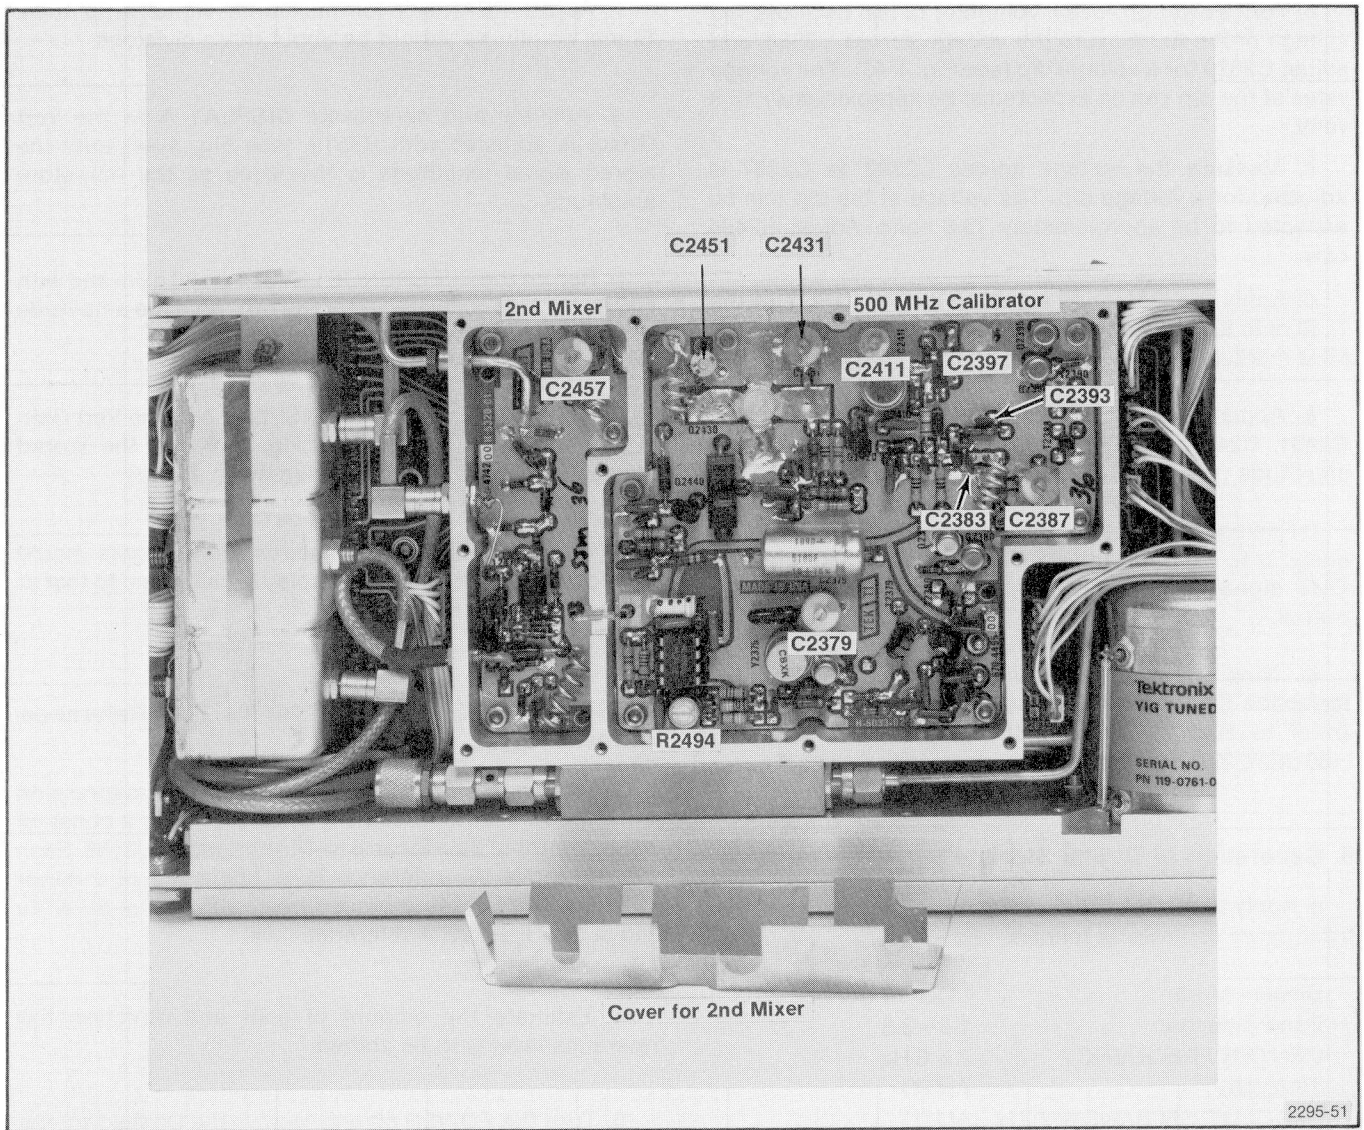

Fig. 4-43. 500 MHz Calibrator and 2nd Mixer Adjustment and T.P. Locations.
- e. Set the 7L18 band selector to 1.5—3.5 GHz and adjust REFERENCE LEVEL for an on-screen indication. It may be necessary to adjust Band 1 Gain R2574 on the Vertical Microcomputer Interface board (see Fig. 4-43), to midrange if a signal is not on-screen.
a. Turn the POWER off, remove the cover plate on the 2nd Mixer and 500 MHz Local Oscillator assembly and the copper shield over the 2nd Mixer section (see Fig. 4-43). Set the front panel controls as follows:
b. Turn Power on. Use a voltmeter or test oscilloscope voltage probe to measure the voltage across C2383, and adjust C2379 for a voltage dip (see Fig. 4-43). The voltage value at the dip can be expected to be approximately 13.8 volts.
e. Adjust the remaining trimmer capacitors (C2397, C2431, C2451, C2457, and C2411) for maximum signal amplitude (see Fig. 4-43).